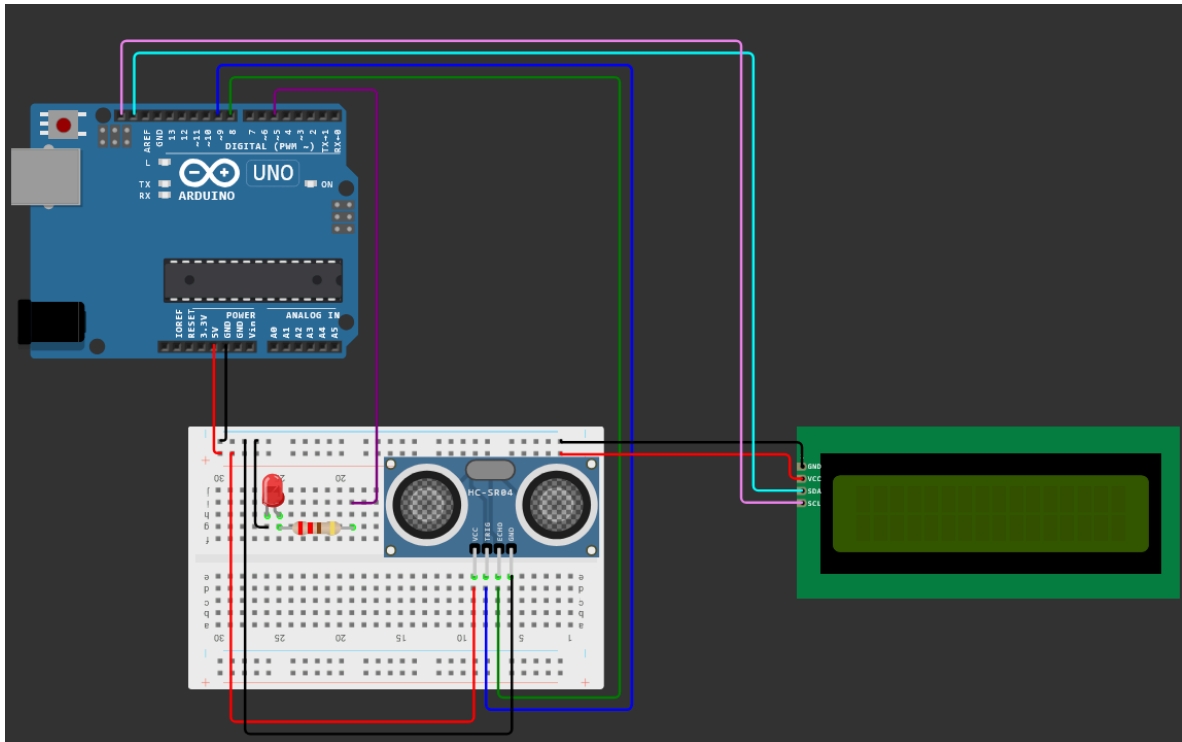

Figure 12: Full Circuit Diagram (<https://wokwi.com/>)
2. Wire the circuit according to the wiring diagram below in Figure 12.